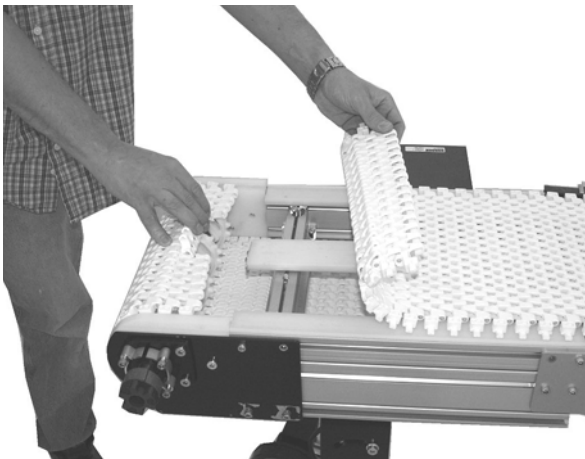

Figure 15
5. Bring the ends of the belt together (**Figure 15**).